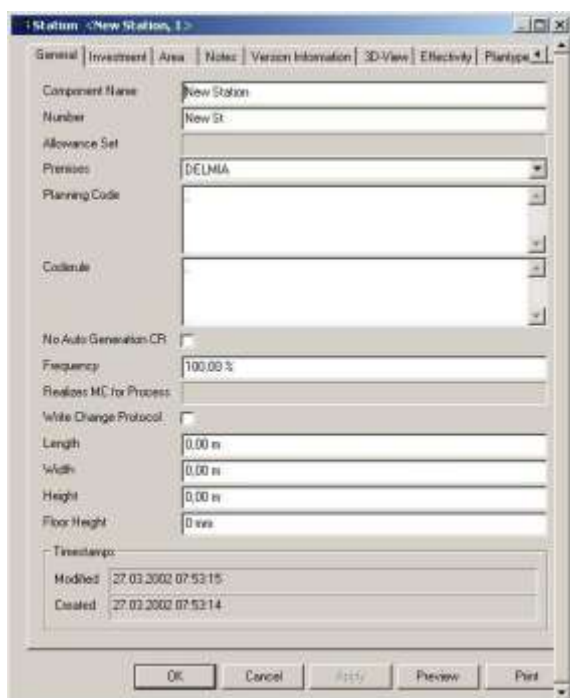

Figure 72: Properties Menu for the New Object
- 4) Click **OK** button after you have made your selection. The **Properties** menu of the station opens. You can enter the specific data in this **Properties** menu. Please refer to the Figure 72.